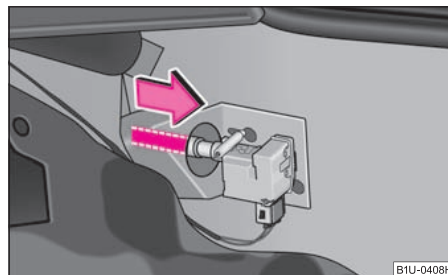

Fig. 147 Luggage compartment: Emergency release of fuel filler flap
- Pull on the control cable in direction of arrow in order to unlock the fuel filler flap ⇒ page 157, fig. 147.